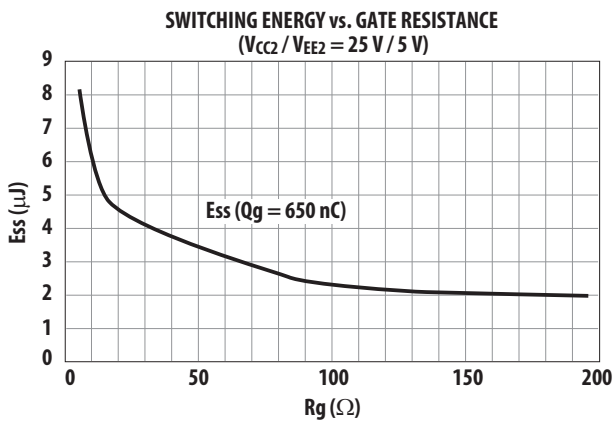

Figure 76. Switching energy plot for calculating average P_{switch} (for ACPL-38JT output driving an IGBT rated at 600 V/100 A).
2. Calculate total power dissipation in the part referring to Figure 76. (Average switching energy supplied to ACPL-38JT per cycle vs. R_G plot);
For $R_G = 10.5$, the value read from Figure 76 is $E_{SWITCH} = 6.05 \mu J$. Assume a worst-case average $I_{CC1} = 16.5 mA$ (which is given by the average of I_{CC1H} and I_{CC1L}). Similarly the average $I_{CC2} = 5.5 mA$.